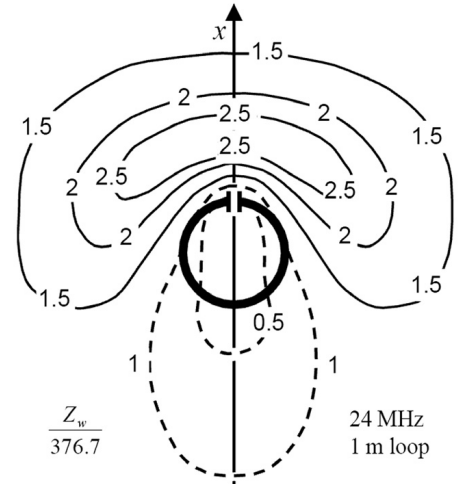

Figure 5—The electric field energy exceeds the magnetic field energy when the field impedance $Z_w/376.7$ exceeds 1 (solid contours).
With just 10 W RF power the voltage on the loop at the tuning capacitor peaks out at nearly 1 kV peak, (multiply Eq (6) by 1.41), and is a safety concern. At 10 W the FCC compliance distance for RF exposure, see [3], is between 1.3 and 1.5 m (<5 ft) from the loop center across 7–29 MHz. Figure 5 shows that the electric field near the loop may be of more concern than the magnetic field, especially on the capacitor side (top) of the antenna.